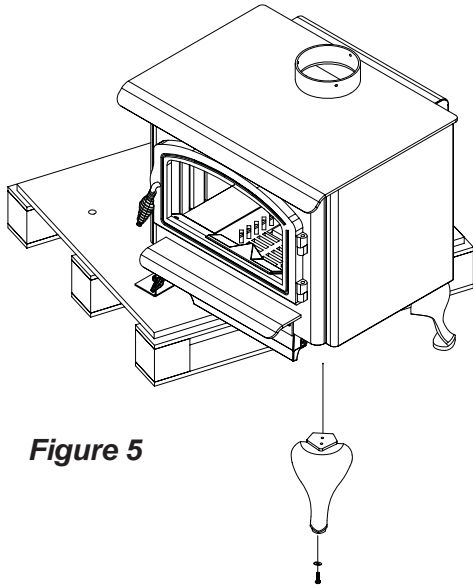

Figure 5
- 8) Remove the remaining bolt from the hold down bracket and install front leg. *Figures 5 & 6*